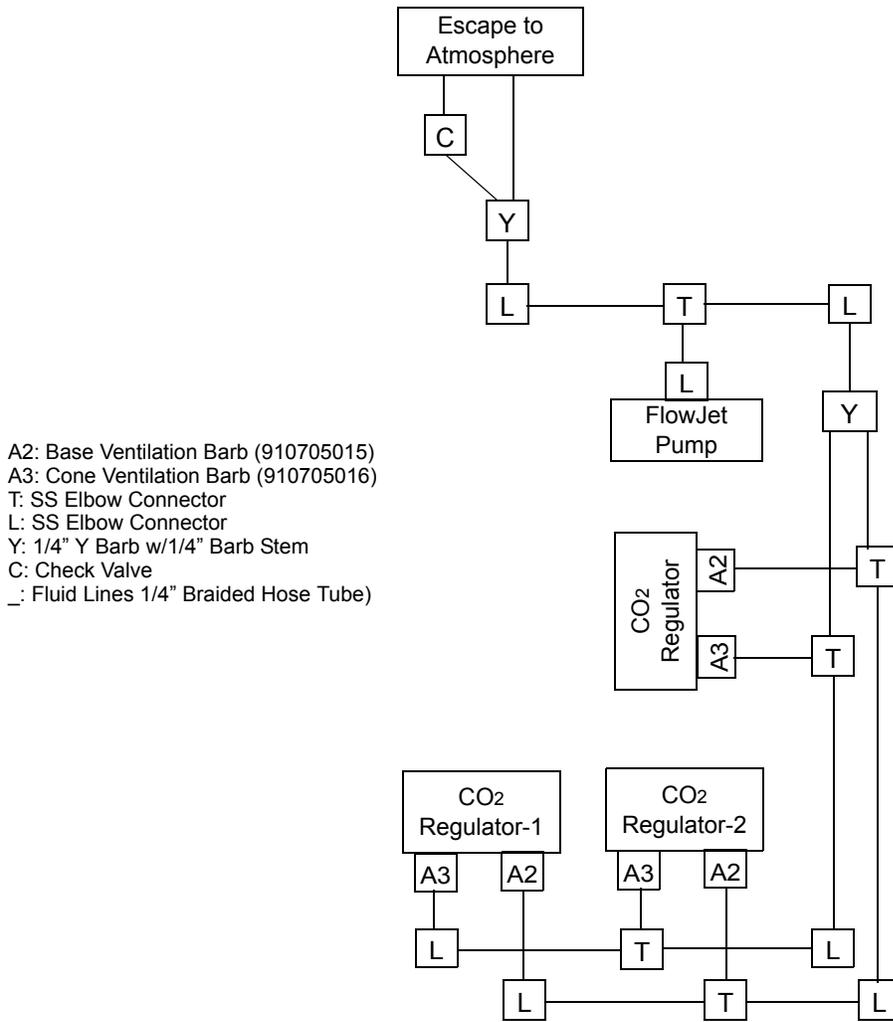
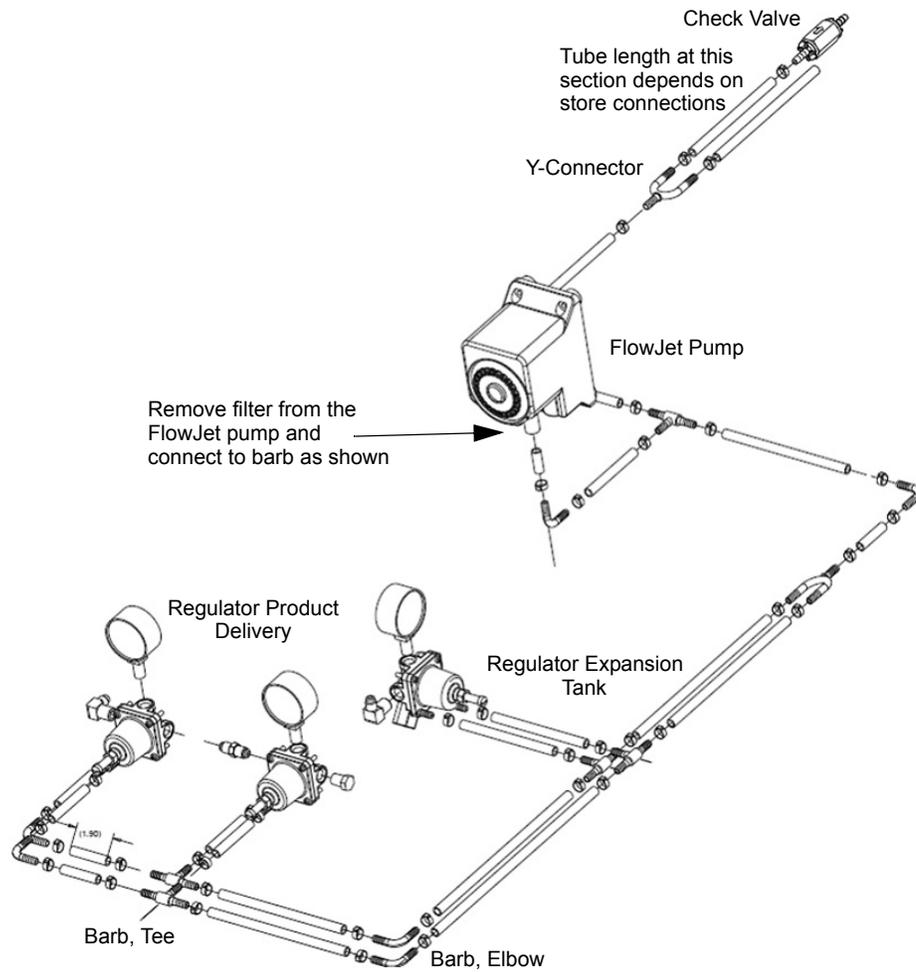
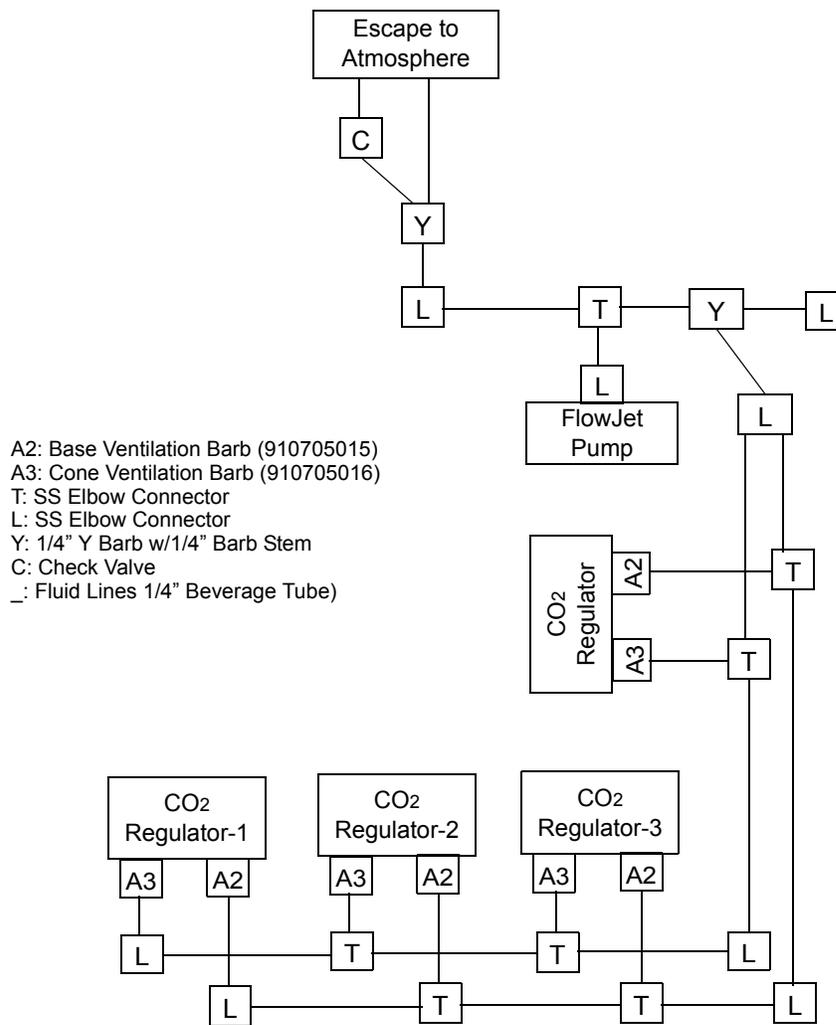
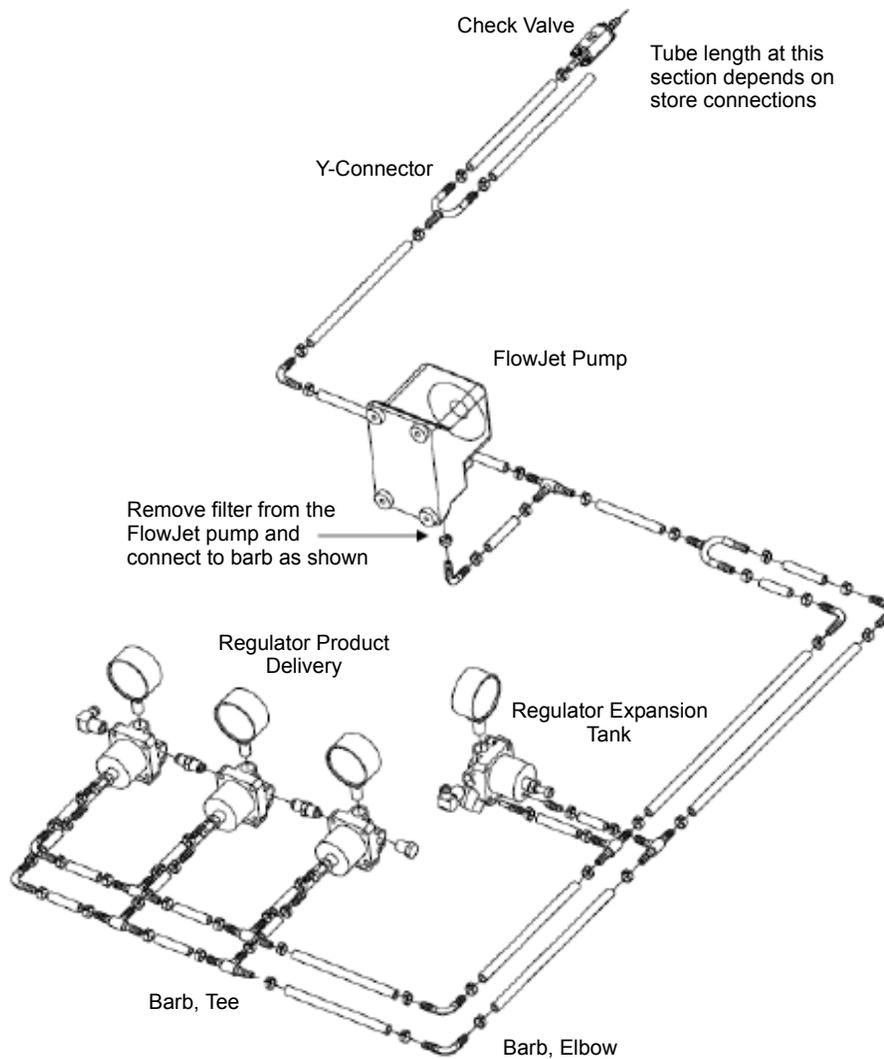

Figure 3. Representative Plumbing Line Diagram, Viper 2 Barrel
Figure 4. Representative 3D Plumbing Line Diagram, Viper 2 Barrel
Figure 5. Representative Plumbing Line Diagram, Viper 3 Barrel
Figure 6. Representative 3D Plumbing Line Diagram, Viper 3 Barrel
2. Connect Braided Tubes to Adapter Barbs with Oetiker Clamps and route the tubes as shown in Figure 3 and Figure 4 for 2-Barrel units and Figure 5 and Figure 6 for 3-Barrel units, so that the exhaust tube runs to a naturally ventilated area.